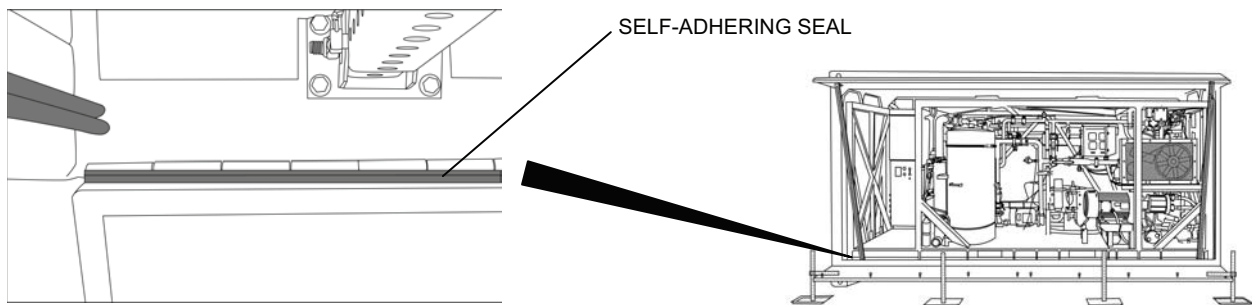

Figure 3. Flat Rack Self-Adhering Seal Replacement.
2. Replace flat rack self-adhering seals as follows (see Figure 3):